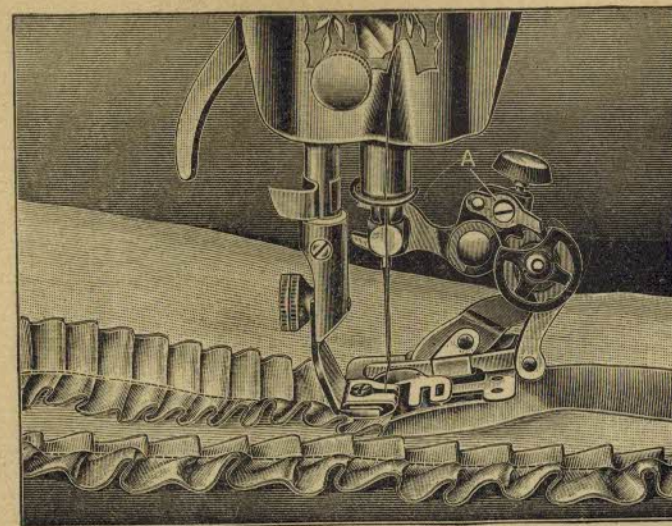

FIG. 17
To make the five stitch ruffle turn the screw (A) as far as possible over to the right, as shown in Fig. 17; the ruffling blade will then move forward and back only once every fifth stitch.